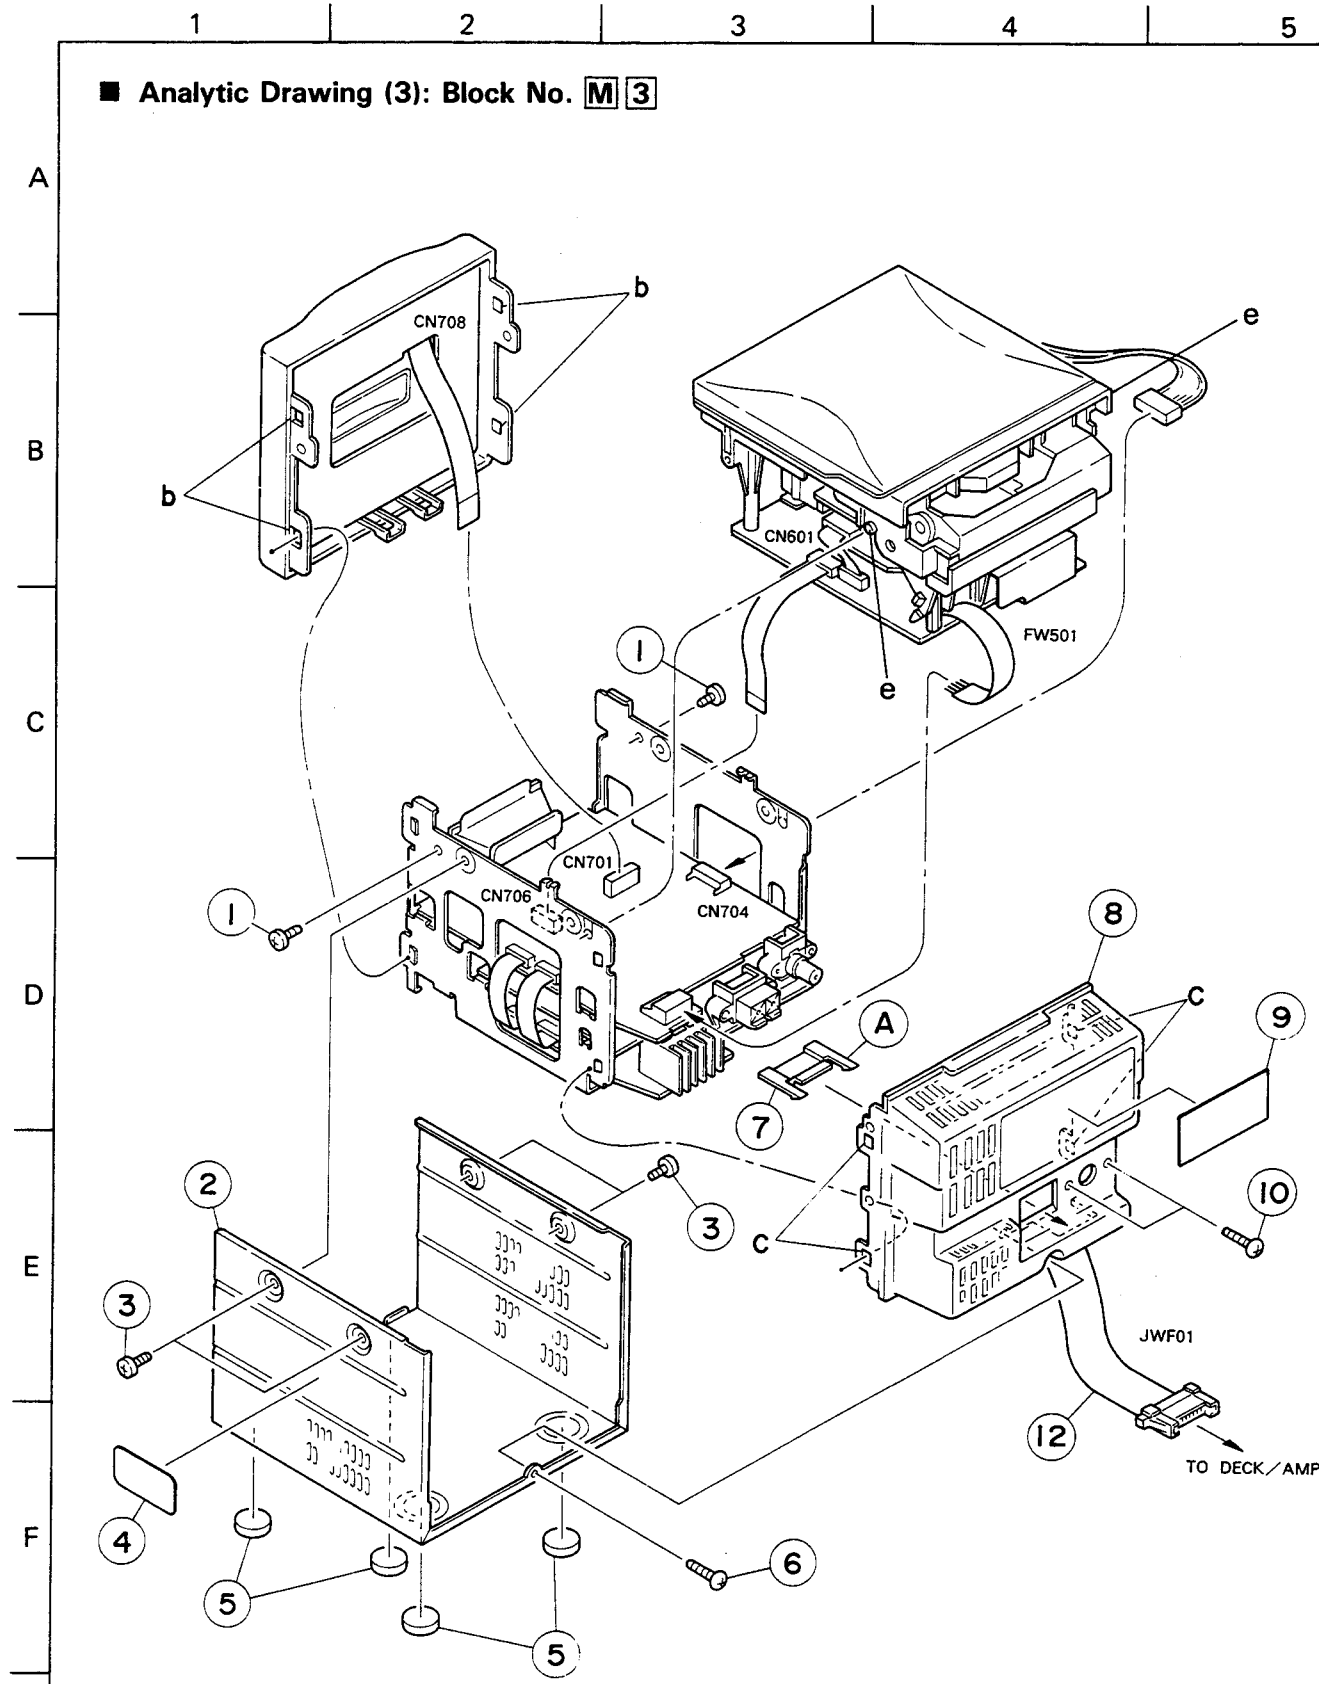

Fig. 7-8
• Metal Cover (Fig. 7-8)
1. Remove the four screws ③ retaining the metal cover from the body.
2. Remove the one screw ⑥ retaining the metal cover from the back surface of the body.
• Front Panel Ass'y (Fig. 7-8)
• CD Player Ass'y (Fig. 7-8 ~ 11)
1. After turning the body upside down, insert a minus screw driver into the hole ④ engaging the system wire inserting wire holder and the rear cover, and disengage the holder and cover. Then, dismount the wire holder while pulling it out.
2. Remove the two screws ⑩ retaining the rear panel from the body.
3. After inserting a minus screw driver between the four engagement points ③ fixing the rear cover, release the engagements and separate the rear cover from the body.
4. After inserting a minus screw driver between the front panel and chassis, release the four engagement points ② fixing the front panel ass'y, and separate the front panel ass'y from the body.
5. Remove the two screws ① retaining both sides of the CD player ass'y from the chassis.
6. After expanding the right and left sides of the chassis outward, release the right and left engagements ⑤ of the CD player ass'y and chassis, and separate the CD player ass'y from the body.
1. Remove the four screws (3) retaining the metal cover from the body.
2. Remove the one screw (6) retaining the metal cover from the back surface of the body.
2. Remove the two screws (10) retaining the rear panel from the body.
5. Remove the two screws (1) retaining both sides of the CD player ass'y from the chassis.